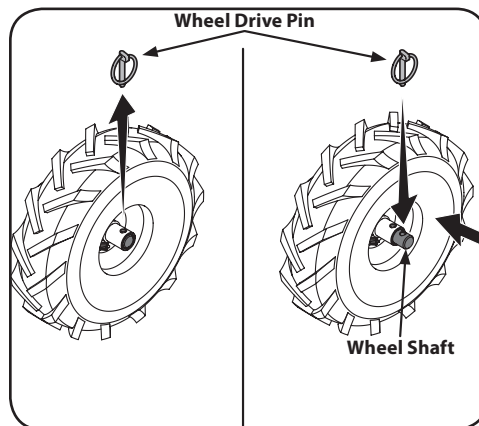

Figure 2-12
- Remove the wheel drive pin from the wheel hub and wheel shaft. See Figure 2-12.
- Slide the wheel fully inward on the wheel shaft. Reinstall the wheel drive pin through the wheel shaft only (not through the wheel hub). See Figure 2-12. The wheel should now spin freely (freewheel) on the wheel shaft. Repeat with the other wheel.